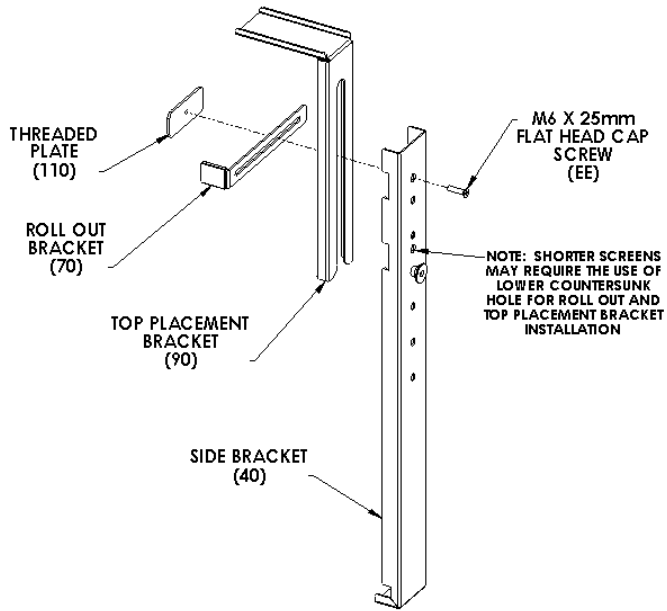

Figure 8. Assemble the Side Brackets
2. Install the threaded plate (110) and roll out bracket (70) in the notched cutout on the side bracket (40). Do not tighten the cap screw (EE) at this point.
3. Slide the top placement bracket (90) inside the side bracket (40). Make sure that the L-shape top placement bracket is turned in the right direction as shown in Figure 8.